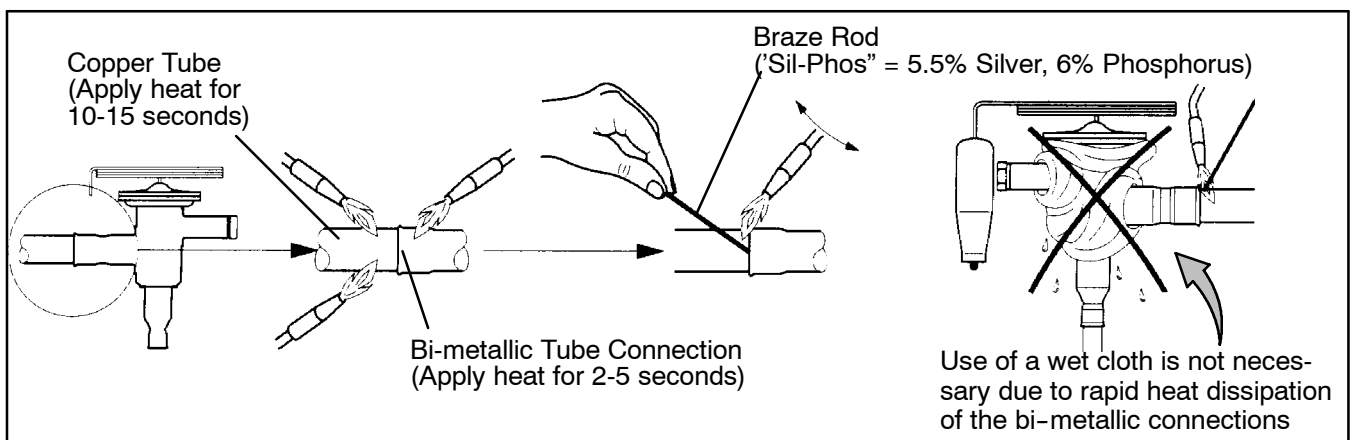

Figure 42. Hermetic Thermostatic Expansion Valve Brazing Procedure
3. Unbrazed the equalizer connection (1/4"), the outlet connection (5/8") and then the inlet connection (3/8"). See Figure 42. Be careful to protect the insulation on the heaters and their wires.
4. Braze inlet connection to inlet line, see Figure 42.